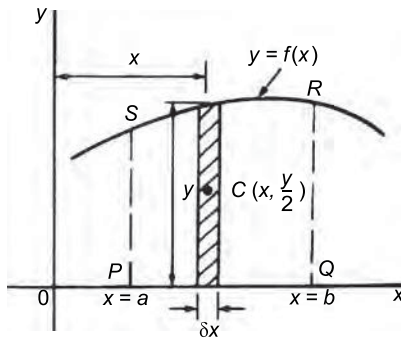

Figure 9.2
- (i) Figure 9.2 shows an area $PQRS$ bounded by the curve $y = f(x)$, the x -axis and ordinates $x = a$ and $x = b$. Let this area be divided into a large number of strips, each of width δx . A typical strip is shown shaded drawn at point (x, y) on $f(x)$. The area of the strip is approximately rectangular and is given by $y\delta x$. The centroid, C , has coordinates $\left(x, \frac{y}{2}\right)$